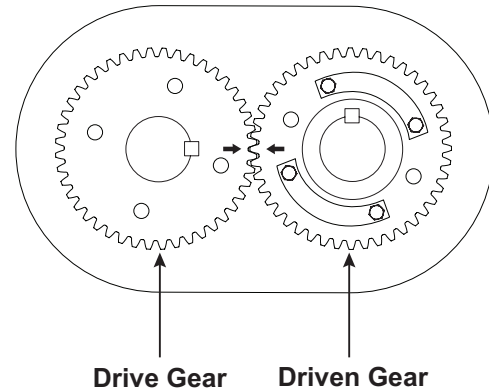
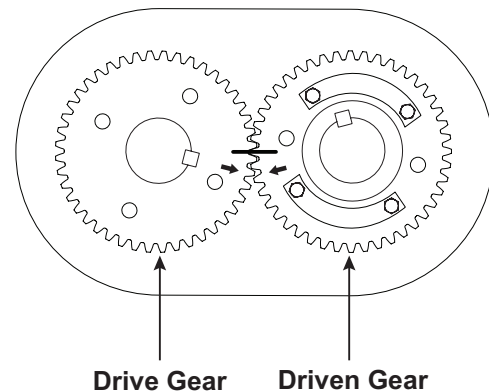

Figure 8-2 – Timing Marks Matched
Figure 8-3 – Timing Marks Advanced 3 Teeth (Reference Marks Aligned)
- Make sure all parts are clean and free of nicks or burrs caused by disassembly. See **Figure 8-2** and **Figure 8-3 on page 34** for dimension of seal pressing tools.